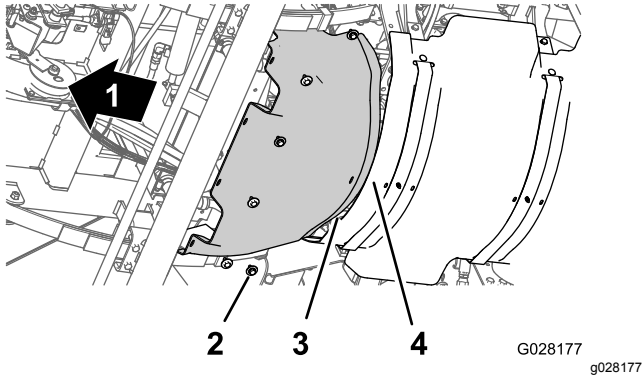

Figure 63
1. Align the rear flange of the forward heat shield over the forward flange of the rear heat shield (Figure 63).
2. Align the holes in the forward heat shield with the threaded holes in the chassis (Figure 63).
3. Assemble the forward heat shield to the machine with the 6 hex-head bolts and 6 washers (Figure 63) that you removed in step 3 of Removing the Forward Heat Shield (page 49).